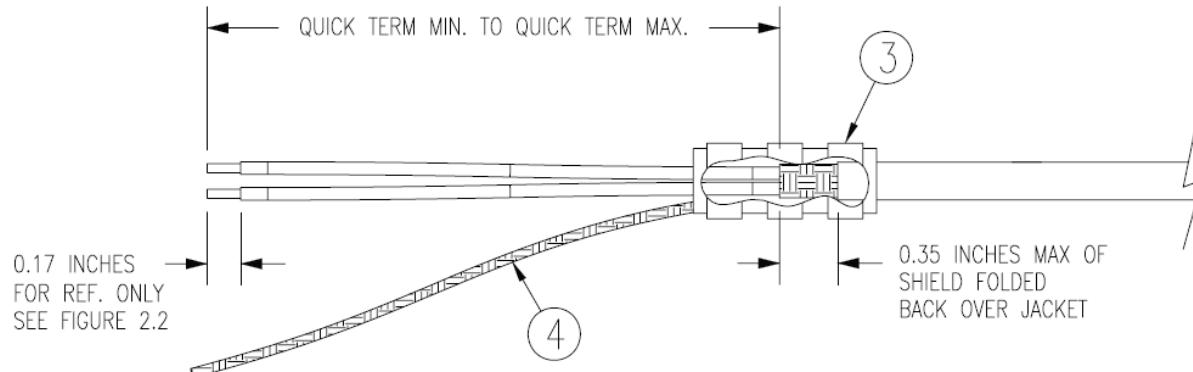

Figure 16-9 Method B.1 (Quick Term) for Shield Termination
If desired, the drain wire termination (item 3) and the floating shield termination (item 5) can be effectively combined into a “Quick Term”. This method eliminates the float in the cable insulation and moves the placement of the window which was described by the dimensions “Window Min” and “Window Max” from Method A. This technique is depicted in Figure 16-9.
Connect a Flat Braid (item 4) to the folded back shield of the prepared cable assembly. The flat braid should go out the front of the termination towards the connector. It is not permitted to exit the rear of the termination and loop back towards the connector. (Figure 16-9). Make this connection using an approved shield termination technique.